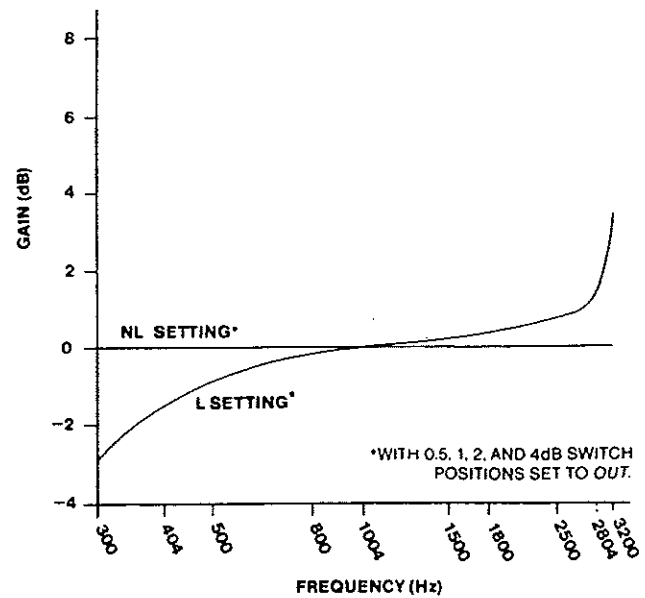

figure 6. Typical compromise bump equalization response curves
2.09 The second mode of receive-channel equalization available on the 6124/A is compromise bump-type equalization for loaded cable. The bump equalizer inserts a 3dB bump at 3200Hz (re 1004Hz) and provides 1.5dB of roll-off at 404Hz (re 1004Hz). Typical frequency response of the compromise bump equalizer is shown in graphic form in figure 6 and in tabular form in table 2.